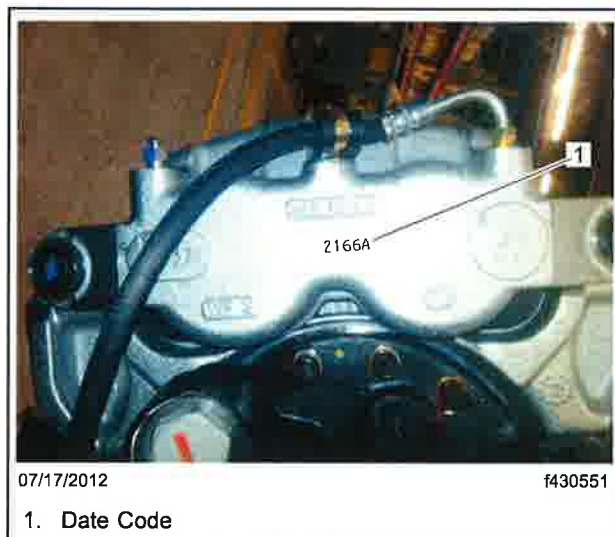

Fig. 1, Date Code Location on Caliper
4. Using a flashlight, inspect the caliper to determine the date code. See **Fig. 1** for an example of the date code and location. See **Table 3** for a list of affected date ranges. The alpha numeric date code for the caliper is made up of four digits and one letter; ignore the letter for this inspection.